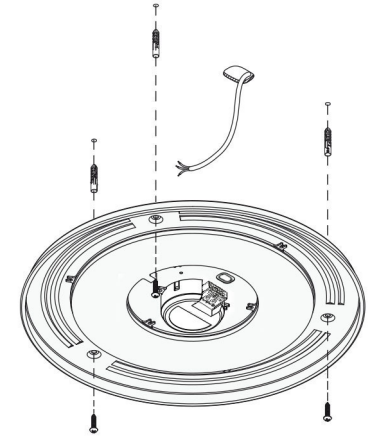

fig. 2
3. **fig. 2:** Hold bracket against the wall and mark drill points, drill the holes, insert the dowel. Use suitable material for wooden walls or lightweight walls. Insert the cable through the hole in the base plate. Fasten the base plate with screws.